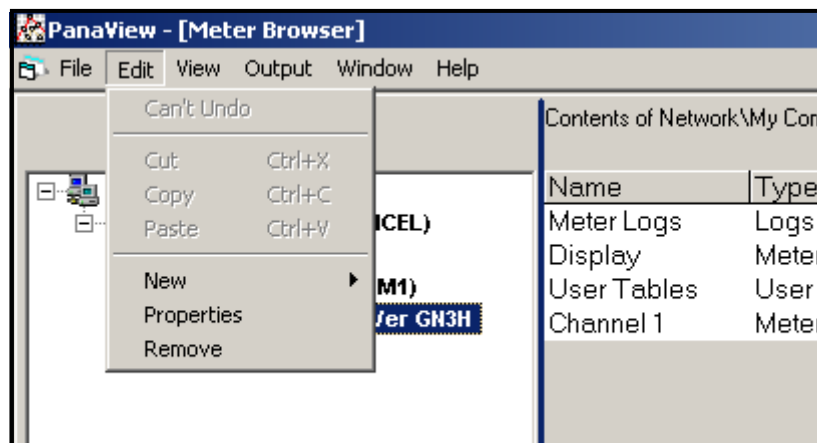

Figure 24: The *Properties* Option in the *Edit* Menu
2. Open the “Edit” menu and select the “Properties” option, as shown in *Figure 24* below.